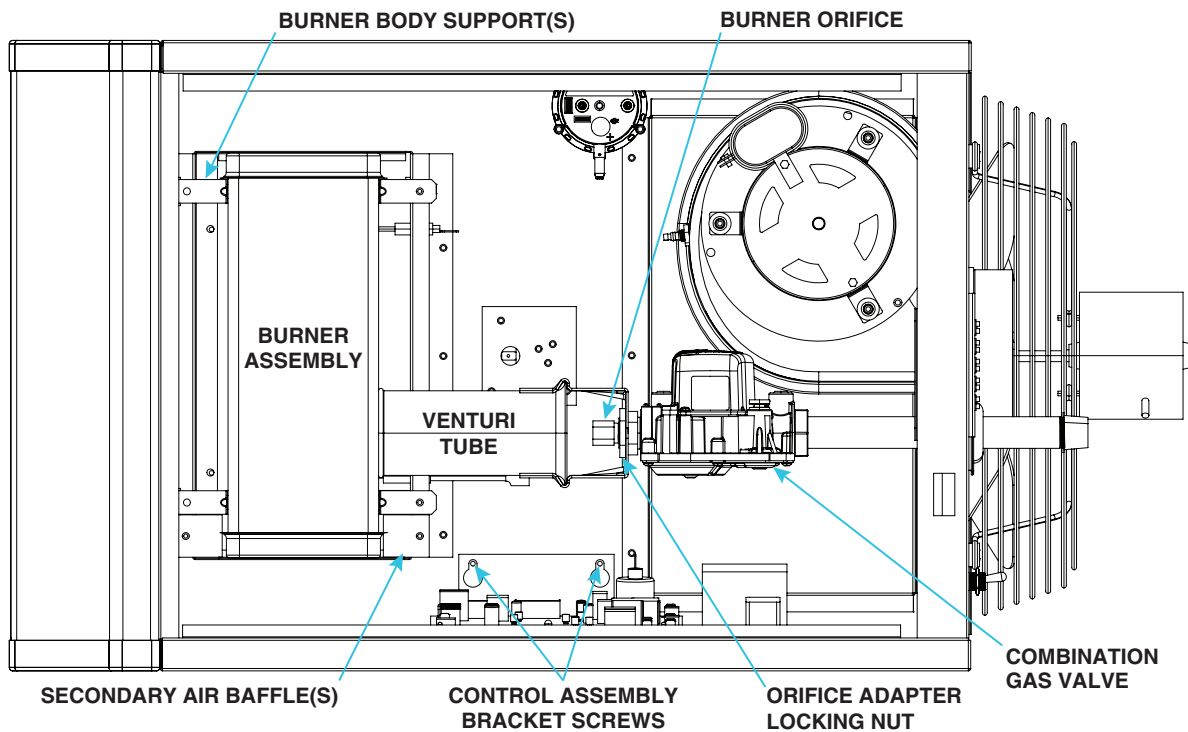

Figure 21. Burner Compartment (Typical)
Visually inspect the burner compartment (see Figure 21). If there is an accumulation of dirt, dust, and/or lint, clean the compartment and remove and clean the burner as follows:
2. Remove burner assembly (see Figure 21):
- (1) Remove four screws that secure end cap to burner housing.
- (2) Lightly tap end cap to remove it.
5. Re-install burner assembly (see Figure 21):